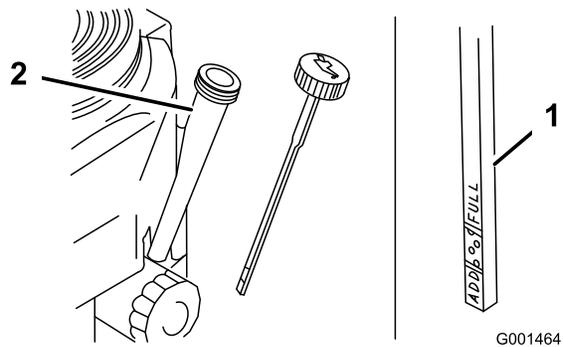

Figure 29
5. Unscrew the oil dipstick and wipe the end clean (Figure 29).
6. Slide the oil dipstick fully into the filler tube, but do not thread onto tube (Figure 29).
4. Clean around the oil dipstick (Figure 29) so that dirt cannot fall into the filler hole and damage the engine.
8. Slowly pour approximately 80% of the specified oil into the filler tube (Figure 29).